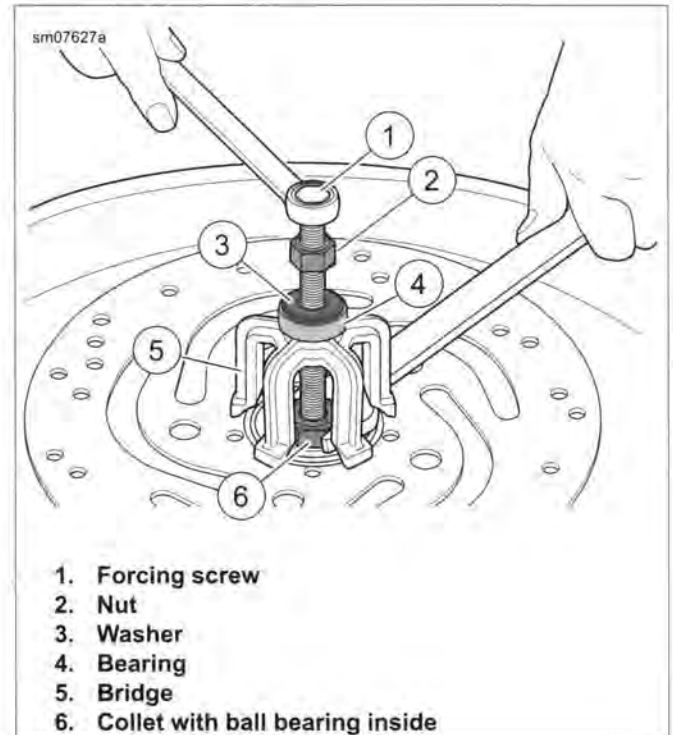

Figure 2-20. Wheel Bearing Removal Tool
4. See Figure 2-20. Sparingly apply graphite lubricant to threads of forcing screw (1) of WHEEL BEARING REMOVER/INSTALLER (Part No. HD-44060C).
5. Install nut (2), washer (3) and bearing (4) on forcing screw. Insert assembly through hole in bridge (5).